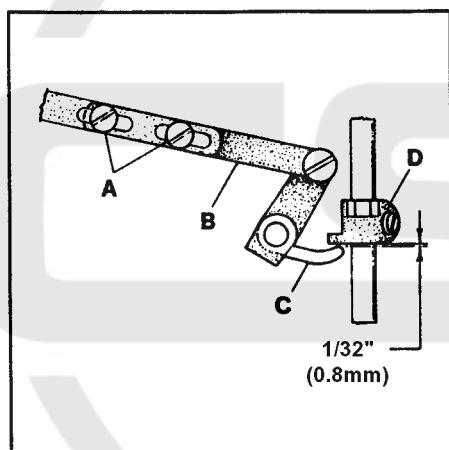

FIG. 22
Replace the presser spring and the presser bar regulating screw. Loosen screws (A, Fig. 22) in lifter lever link assembly (B) and position lever (C) so there is $1/32"$ (0.8mm) clearance between it and presser bar guide (D) when the feed dogs are below the throat plate.
NOTE: Make sure the $1/32"$ (0.8mm) clearance between the presser bar lifter lever and presser bar guide has been maintained. Refer to Fig. 22 if readjustment is necessary.